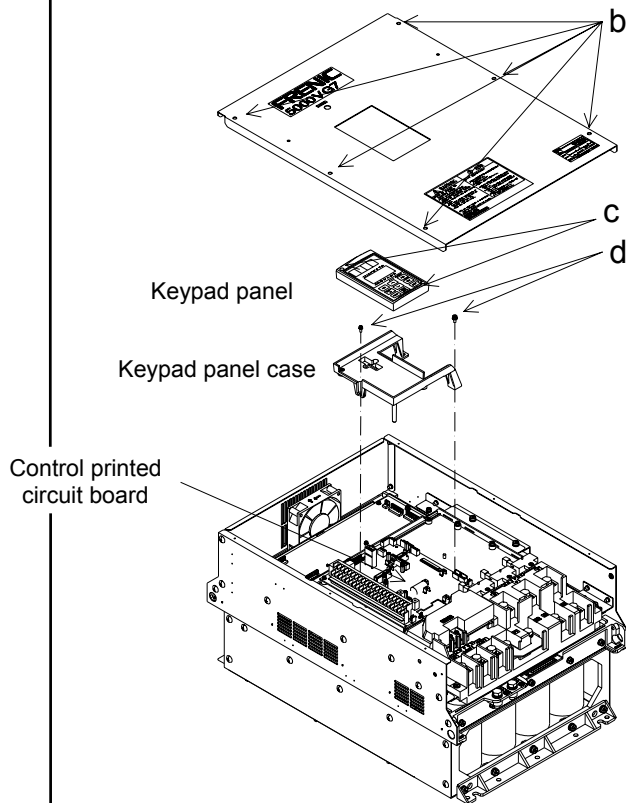

Fig. 7-2 Removing Method of Front Cover
- (1) As shown in Fig. 7-2, loosen the front cover screws (the quantity varies depending on the capacity) at (b) and remove the front cover.
- (2) Loosen 2 screws at (c) and remove the keypad panel.
- (3) Loosen 2 screws at (d) and remove the keypad panel case.